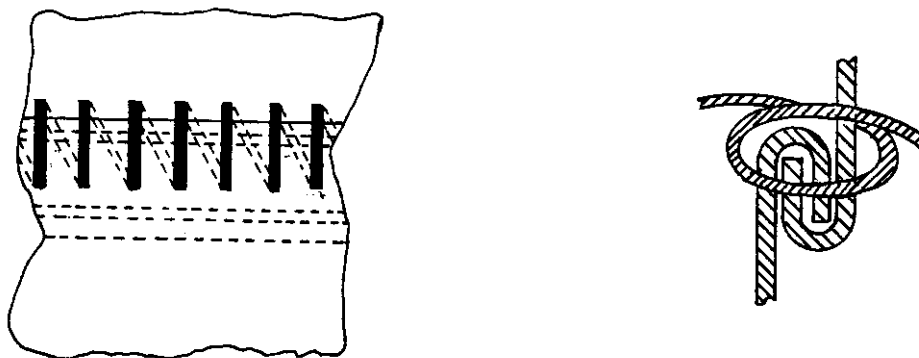

FIGURE 2 - HAND STITCHING OF LENGTHWISE SEAM
- Step 3. After placing the cover in position, double fold the lengthwise seam and hand stitch in place using glass fibre thread as shown in Figure 2 with stitches approximately 1/4" apart. Masking tape or pins may be used to hold the cover temporarily in place for sewing, but must be removed before sealing.